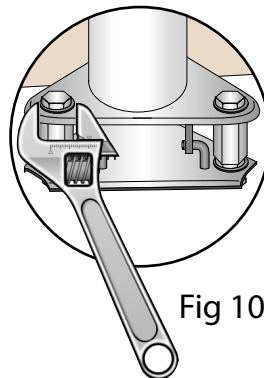

Fig 10,
13. Raise the flagstaff, insert and tighten the set screws and anti-vibration washers. (See Fig 10)